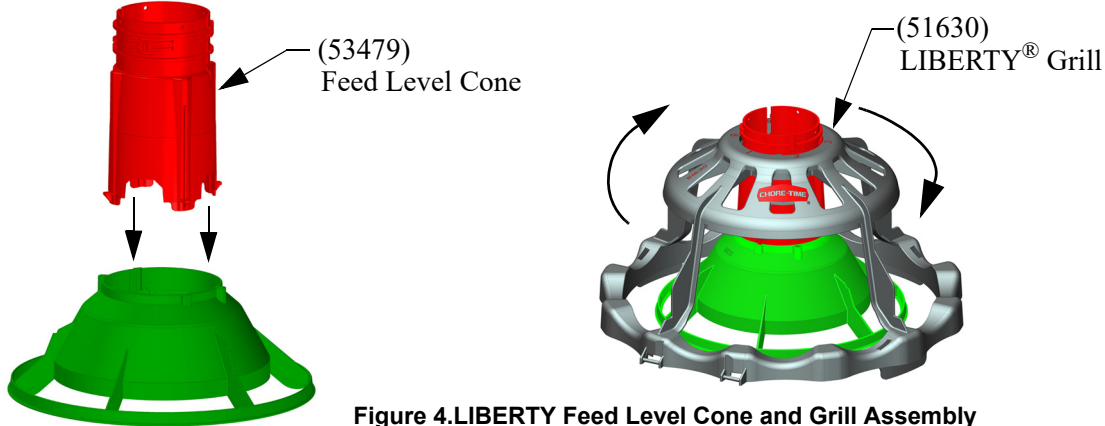

Figure 4. LIBERTY Feed Level Cone and Grill Assembly
1. Insert the Feed Level Cone (53479) into the Machined Adjustment Cone (51629) as shown in **Figure 4**. They will only slide together when they are lined up correctly.